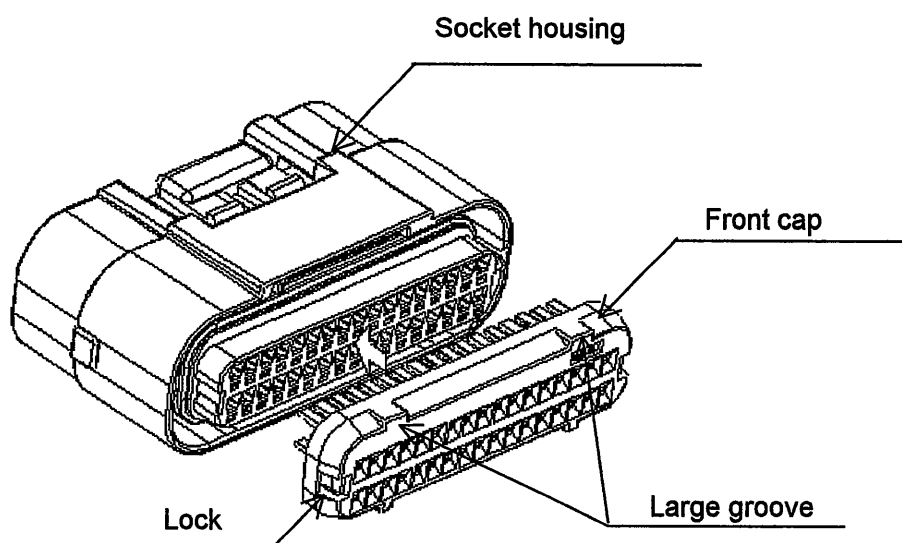
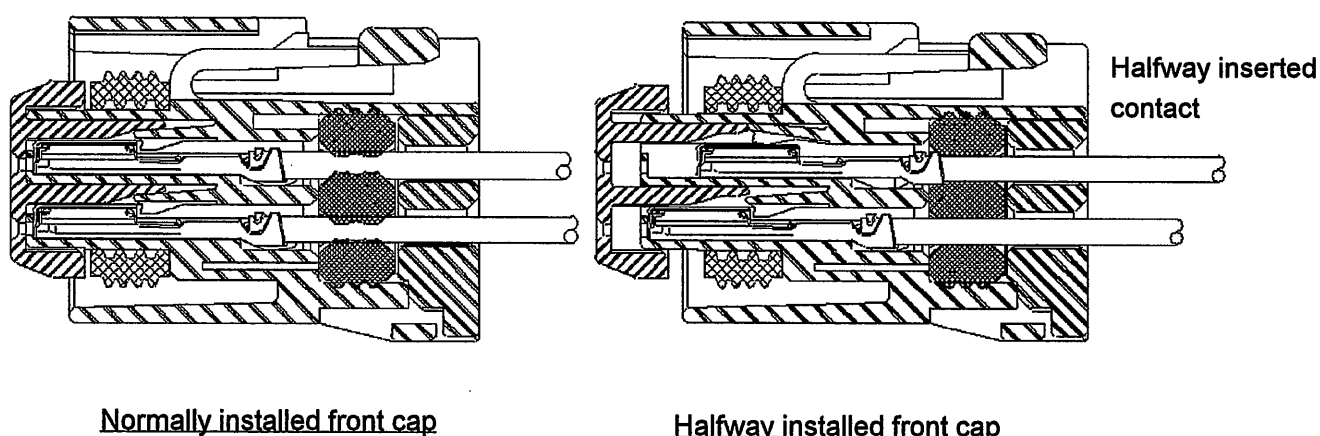

Fig.21 Front cap installation method
Fig.22 Front cap installation
Install a front cap after the contact insertion. Structurally, it is impossible to install the contact after the front cap insertion. Verify the vertical direction of the front cap during the front cap installation (Large groove; upside). When the front cap is assembled, put it in horizontally as shown in Fig. 21. If the front cap resists during the assembly, it may be due to the insufficient contact insertion shown in Fig. 22. Confirm that the contact is fully inserted. If it isn't fully inserted, insert it fully pursuant to item 4.1 "Contact insertion method". After the front cap is inserted all the way to the end, visually verify that the locks on both sides are on or lightly pull out the front cap (approx. 10N to 20N) to see that the locks are activated.